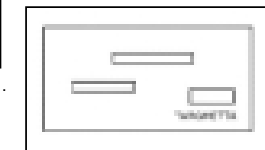

Fig 5.
- 12) Connect the machine to the electricity supply after having checked that the voltage corresponds to that on the plate on the rear panel of the machine (Fig.5).